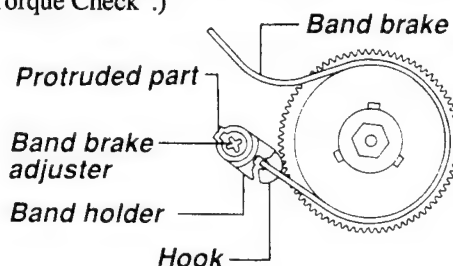

Fig. 4-26-3
1. Turn the band holder as shown in Fig. 4-26-3. (so that the protruded part of the band holder nearly matches the hole shape of the band holder.)